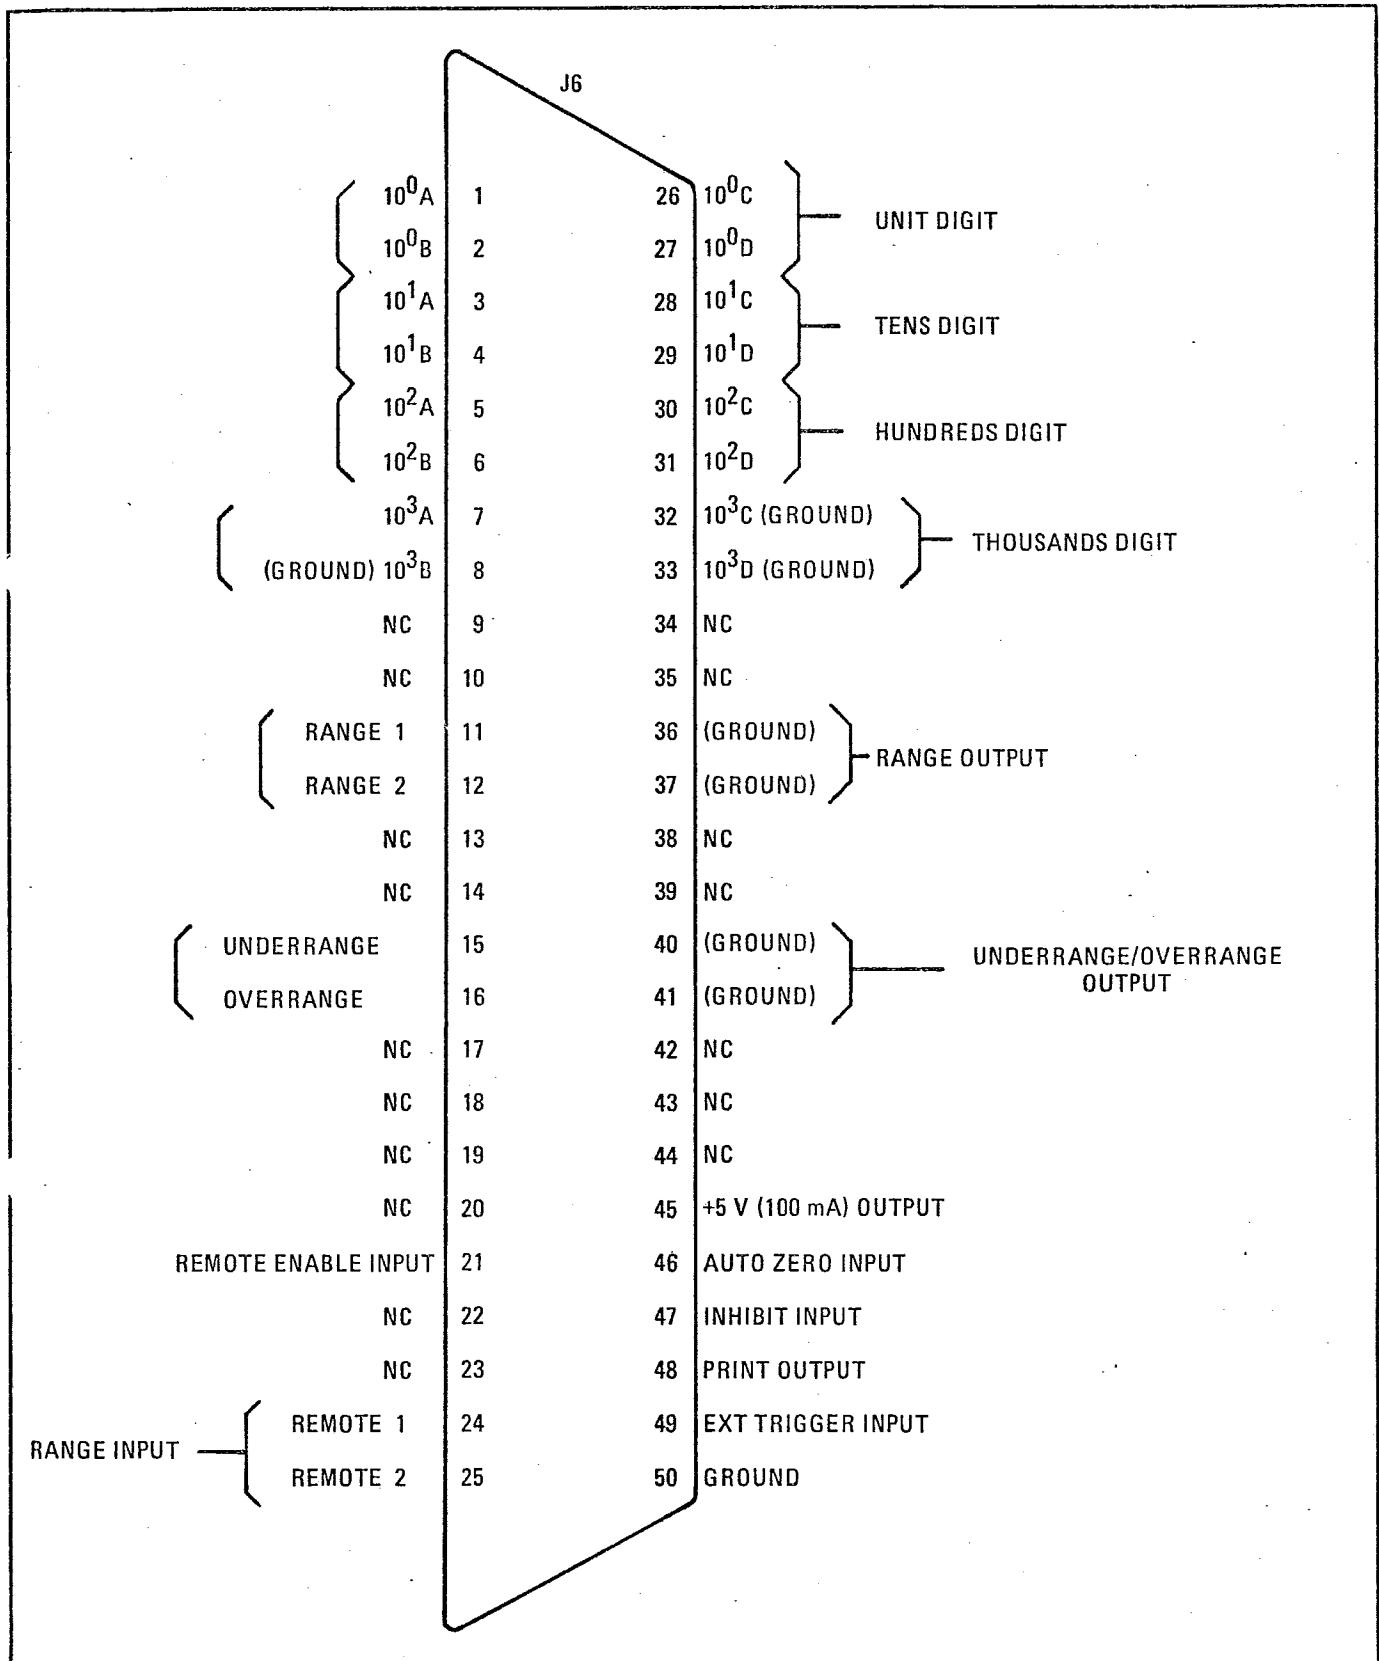

Figure 1. Data Input/Output Connector J6
17. Connector J6, on the rear panel, provides data input/output capability that is TTL compatible. The 432C uses positive true logic: logical "1" refers to +5V (actually +3.5V \pm 1V) and logical "0" refers to 0V (actually +0.2V \pm 0.2V). Figure 1 shows J6 and lists its pin functions.